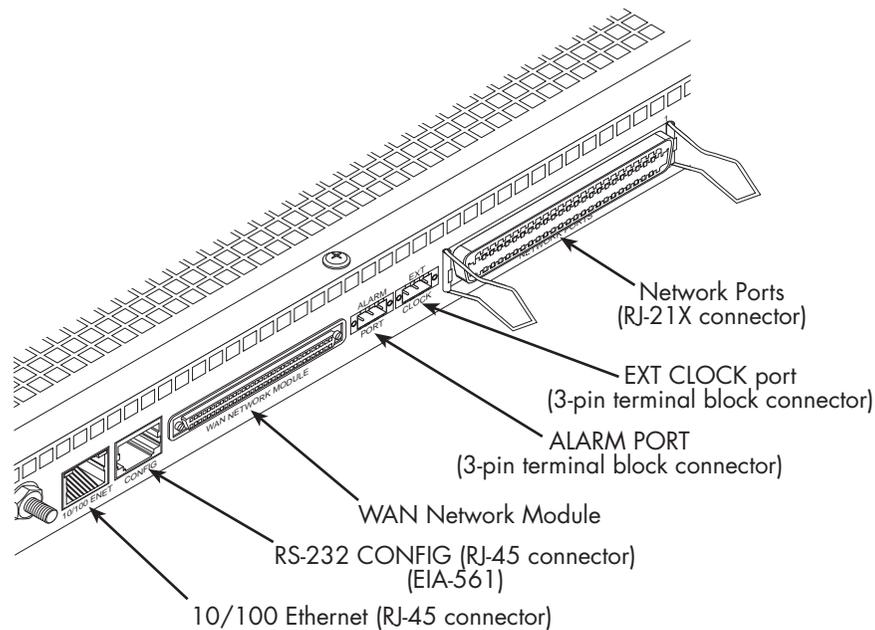
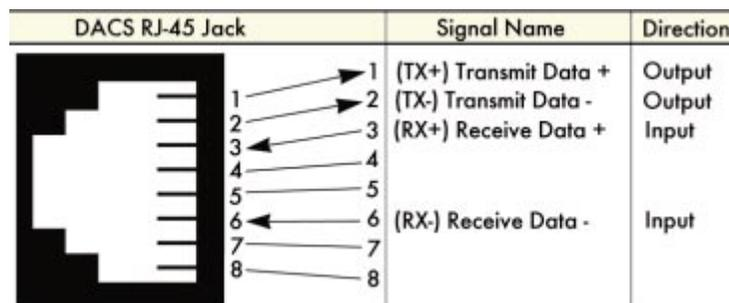
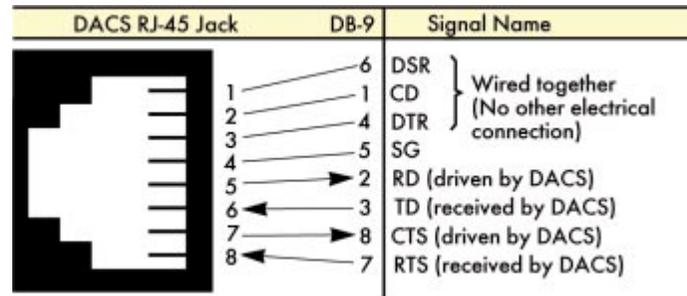

Figure 8. Model 3095 network and configuration ports
Figure 9. Ethernet RJ-45 pin and signal definitions for DACS
Figure 11. DB-9-to-RJ-45 cable diagram
The DACS has a single 10/100 Ethernet interface for connection to your LAN (see figure 8). The Ethernet port will autosense the correct speed of the local LAN and automatically negotiate half- or full-duplex operation. This section describes connecting the DACS to the Ethernet LAN via an Ethernet hub, switch, or workstation.
The 10/100Base-T Ethernet port (see figure 8) is designed to connect to an Ethernet switch or hub. The Ethernet RJ-45 pin and signal definitions for the DACS or for a NIC card in a workstation/PC are shown in figure 9. Connect a straight-through CAT-5 cable (one wired as shown in figure 9) between the DACS and the hub/switch.
Install the supplied RJ-45-to-RJ-45 cable with the DB9-RJ45 adapter between the DACS RS-232 port (see figure 8 on page 26) and an open serial port on your computer. If you need to assemble your own cable, refer to the pinout diagram in figure 11.
2. Connect the RJ45-RJ45 cable between the adapter which you installed in step 1 and the *RS-232 Config* port on the rear of the Model 3095 (see figure 8 on page 26).